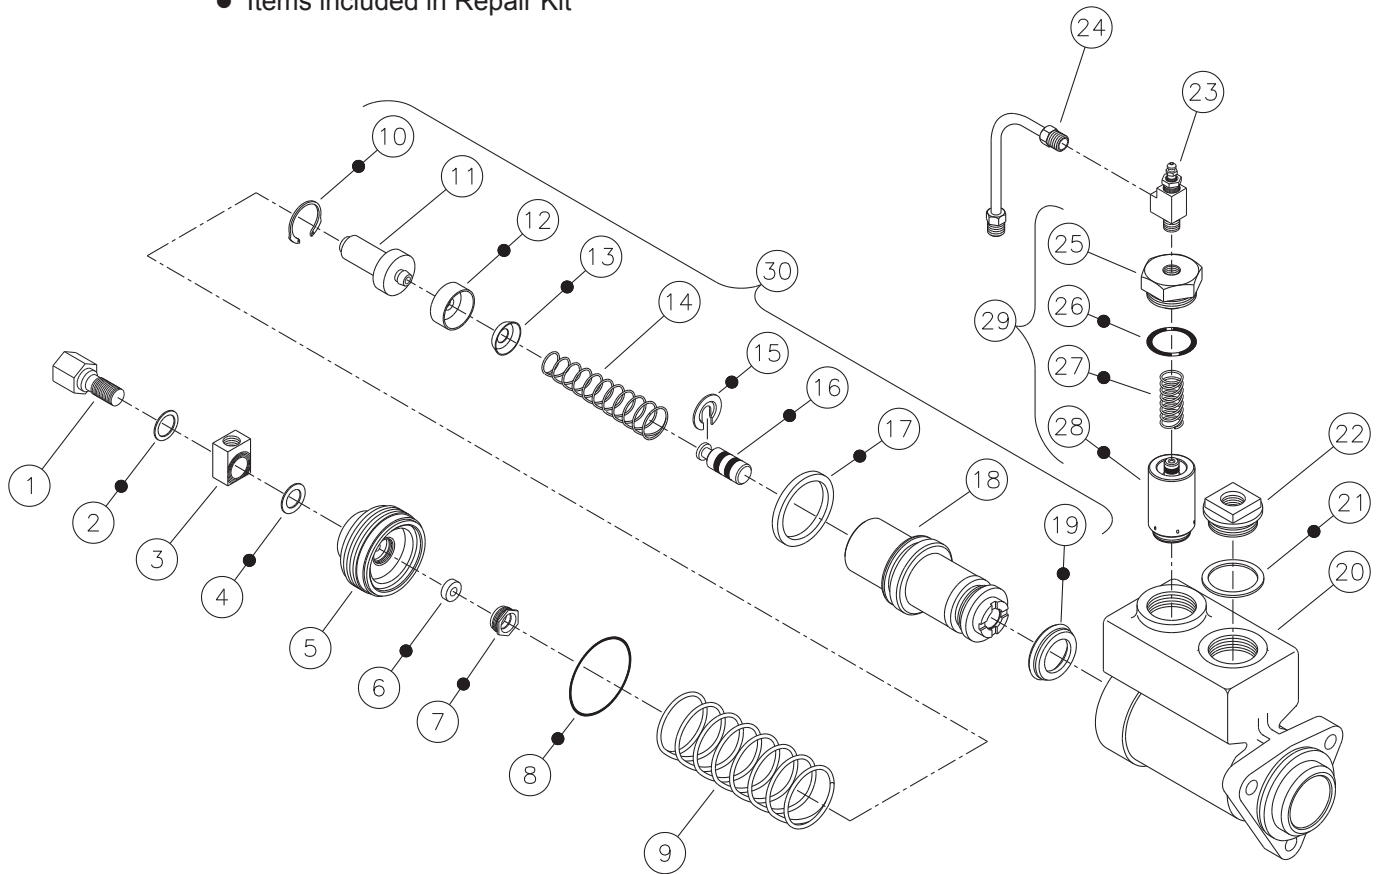

FIGURE 4
6. Install new cup (17) and new cup (19) on piston (18). Note direction of cups (17 & 19).
7. Install piston assembly (30) into housing (20). Note direction of piston assembly (30).
8. Install spring (9) over piston assembly (30).
9. Install new o-ring (8) in housing (20).
10. Install new seal (6) and new retainer (7) in end plug (5).
11. Install end plug (5) into housing (20). Using a large box end wrench torque end plug (5) 67.8-108.5 N·m (50-80 lb·ft).
12. Insert new piston and body assembly (28) into housing (20).
13. Install new spring (27).
14. Install new o-ring (26) on end cap (25).
15. Install end cap (25) into housing (20) and torque 101.7-108.5 N·m (75-80 lb·ft).
16. Assemble new gaskets (2 & 4), fitting block (3), and line bolt (1) into end plug (5). Torque line bolt (1) 46.1-54.2 N·m (34-40 lb·ft). **NOTE: Hold fitting block (3) in a fixed position as shown in Figure 4 while tightening line bolt (1).**